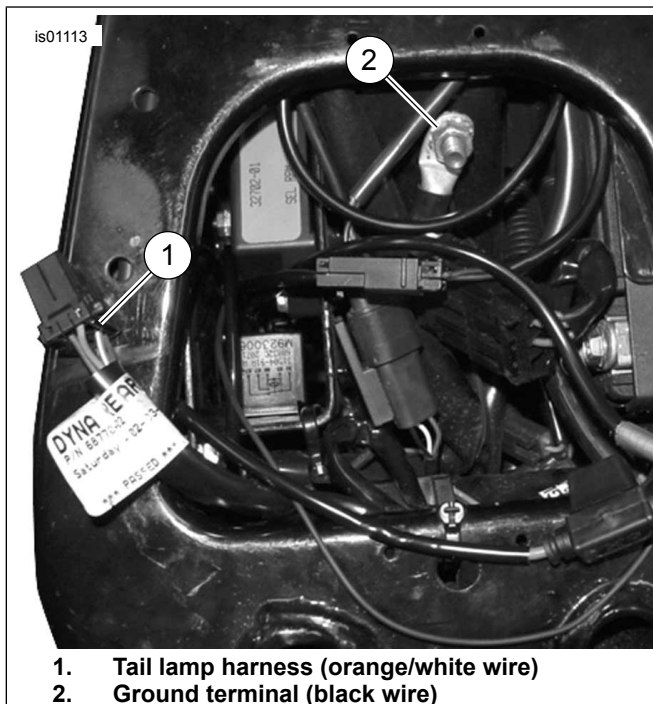

Figure 1. Power and Ground Connections (Dyna Models)
3. See Figure 1. Cut the black wire on the Zumo wire harness to reach the ground location easily. Crimp the ring terminal to the end of the wire per the Packard crimping tool instructions in the service manual appendix.
2. See Figure 1. Carefully slice open an area of the main harness wrap inside the side cover at an accessible point. Cut an orange/white main harness power lead.